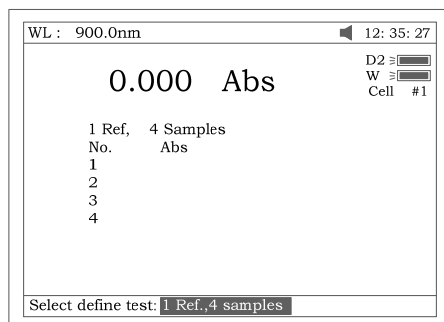

Fig 102
1. Press **[F1]** to setup method (Fig 102). There are 8 items (1 ref. 1 sample, 1 ref. 2 samples, 1 ref. 3 samples, 1 ref. 4 samples, 1 ref. 5 samples, 1 ref. 6 samples, 1 ref. 7 samples, N refs. N samples) for selecting. We take “ 1 ref. 4 samples” for example, Fig 102